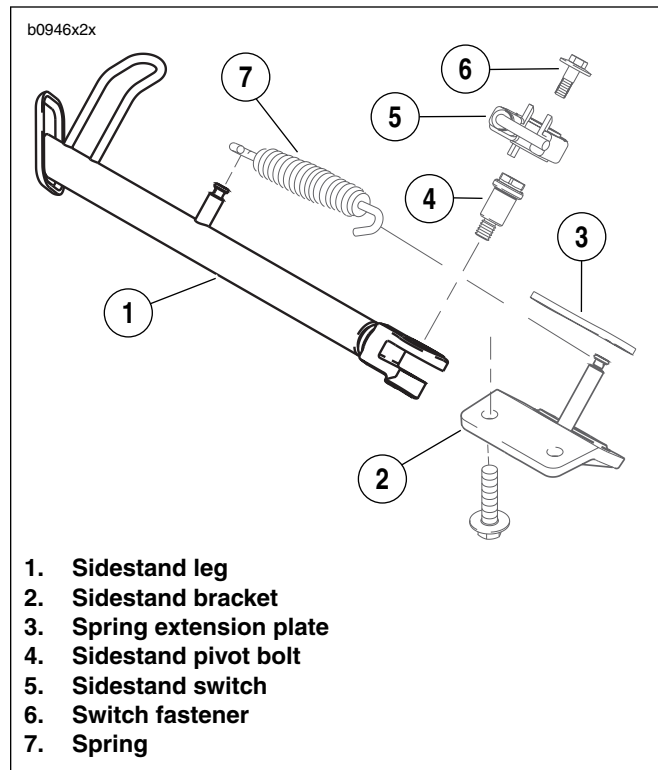

Figure 2. Sidestand Assembly
2. See Figure 2. Remove sidestand switch (5).
- a. Retract sidestand leg (1).
- b. Remove switch fastener (6).
- d. Lift sidestand switch and slide to the right away from spring post on sidestand bracket (2) and leave attached to harness.
3. Remove sidestand leg (1).
- b. Remove sidestand spring (7) and spring extension plate (3) using SNAP-ON SPRING TOOL (Part No. HE-52B).
- c. Remove sidestand pivot bolt (4).
- c. See Figure 2. Install sidestand leg (1) and sidestand pivot bolt (4) tightening to 18-20 ft-lbs (24-27 Nm).
- e. Install spring extension plate (3) and sidestand spring (7) using SNAP-ON SPRING TOOL (Part No. HE-52B).